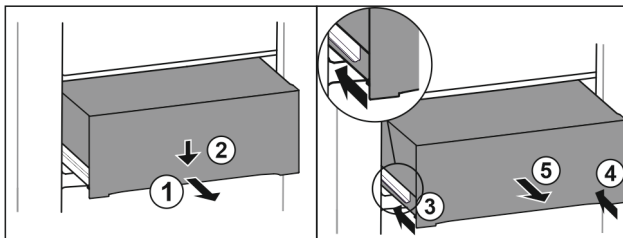

Fig. 95
- ▶ Pull out drawer half-way. Fig. 95 (1)
- ▶ Push the drawer down at the front. Fig. 95 (2)
- ▶ Push the left rail in by about 2 cm. Fig. 95 (3)
- ▶ Push the right rail in by about 2 cm. Fig. 95 (4)
- ▶ Remove drawer to the front. Fig. 95 (5)